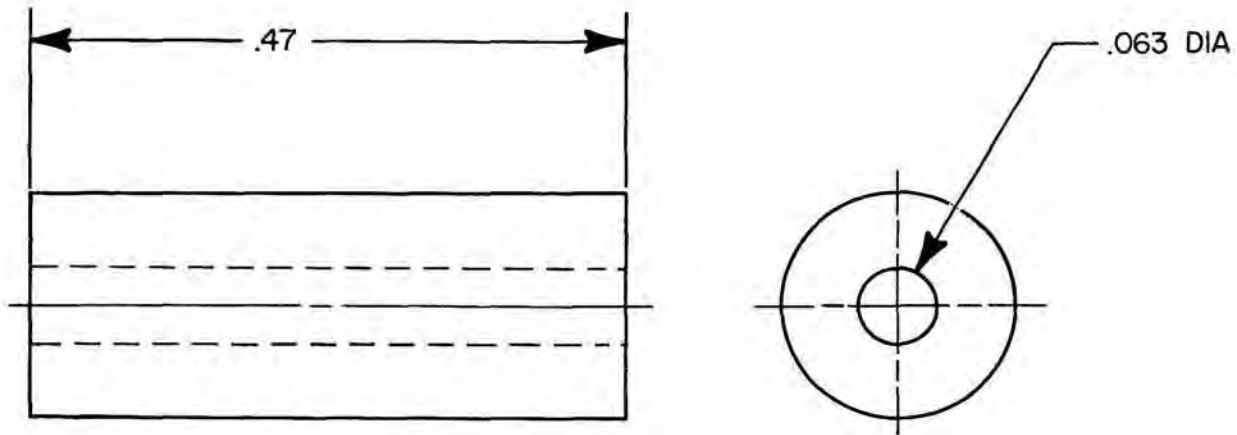

Figure B-5 Probe Tip Preparation
2. Fabricate a probe tip (3) from 3/16" diameter brass rod as shown in Figure B-5.